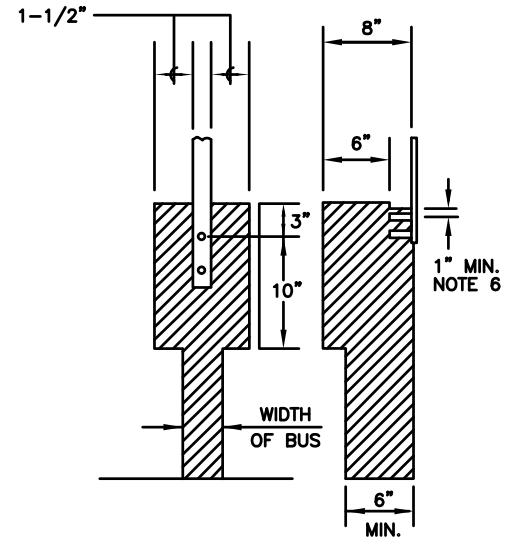

FIGURE 4
5. EACH TERMINATING FACILITY SHALL HAVE AN UNOBSTRUCTED WORKING SPACE, ACCESSIBLE FROM THE FRONT OF THE PULL SECTION AS VIEWED FROM THE ACCESS COMPARTMENT OPENING, IN FRONT OF THE ENTIRE MOUNTING SURFACE AS SHOWN IN FIGURE 4 OF 347.